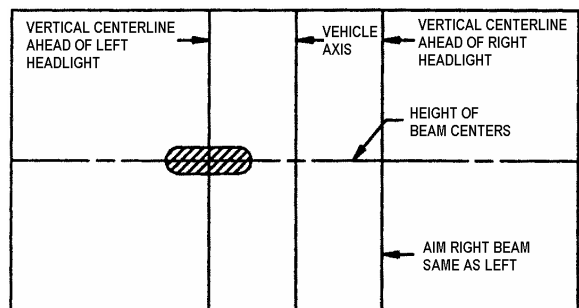

FIGURE 35: HIGH-INTENSITY ZONE (SHADED AREA) OF A PROPERLY AIMED UPPER BEAM ON THE AIMING SCREEN 7.6 M (25FT) IN FRONT OF VEHICLE
- 5. High beam headlights are aimed so that the center of the high-intensity zone is located at the horizontal and straight ahead vertically (Fig. 35).